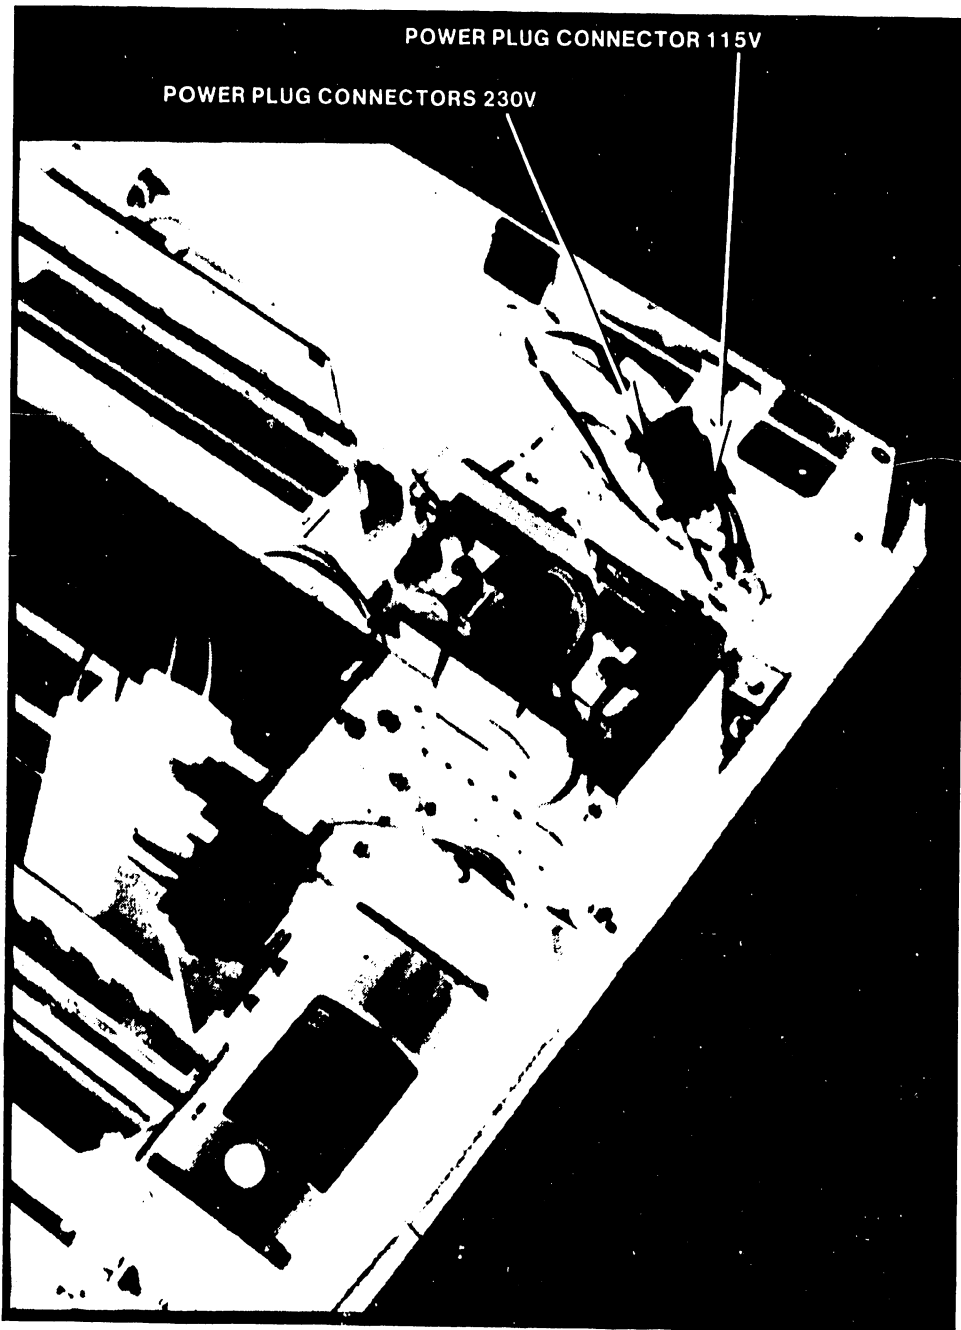

Figure 4-3 Voltage Selector Plug
5. Check the 115/230 voltage selector plug Refer to Figure 4-3.
10. Ensure that the proper voltage selector plug refer to Figures 4-3 is installed prior to plugging in the power cord. Set the printer power switch on the rear panel to the OFF position. Connect the printer power cord to a standard three-prong power outlet.